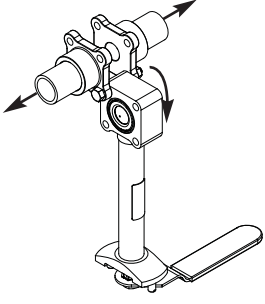

Figure 2: 'Swing-out' method
- Method 2: 'Swing-out' method: (see Figure 2). If only partial removal from the pipeline is required (i.e. to change seats, seals or ball only), then extract all of the body bolts bar one, which is only loosened. The body may then be rotated from between the two body connectors using the last remaining bolt as a pivot.